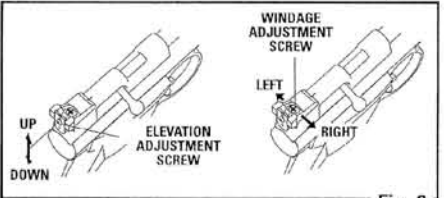

Fig. 6
- Elevation:** The rear sight may be adjusted to shoot higher or lower (elevation). Loosen the elevation adjustment screw by turning it counterclockwise. Move the sight up to make the pellet hit higher on the target. Move the sight down to make the pellet hit lower on the target. Then tighten the elevation adjustment screw by turning it clockwise (Fig. 6).
- Windage:** The rear sight may be adjusted to shoot right or left (windage). Loosen the windage adjustment screw by turning it counterclockwise. Move the sight to the right to make the pellet hit to the right on the target. Move the sight to the left to make the pellet hit to the left on the target. Then tighten the windage adjustment screw by turning it clockwise (Fig. 6).